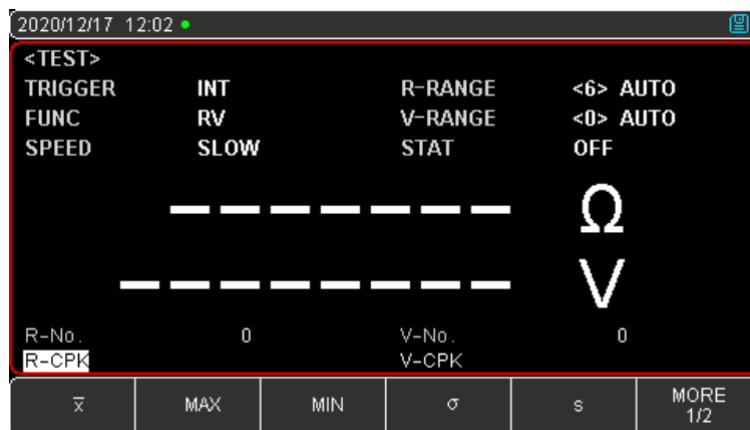

Figure 6-2-2 Setting Page of Statistical Parameters
5. Use the keyboard arrow keys to move the cursor to the fields to select other statistical parameters: MEAN($\bar{x}$), MAX, MIN, σ , s, Cp, as shown in Figure 6-2-2. After determining the required statistical parameters, use the cursor keys to move the cursor to the [STAT] field and select the start function key at the bottom of the screen.